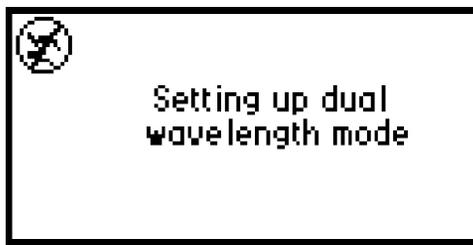

Figure 3-23 Wavelength Mode Change Message (Single to Dual Wavelength)
1. If the detector is in single wavelength mode, press λ/λ from the Absorbance Home screen to toggle from single to dual mode. A momentary message indicates the detector is switching to dual wavelength operation. The message “Setting up dual wavelength mode” appears (Figure 3-23).